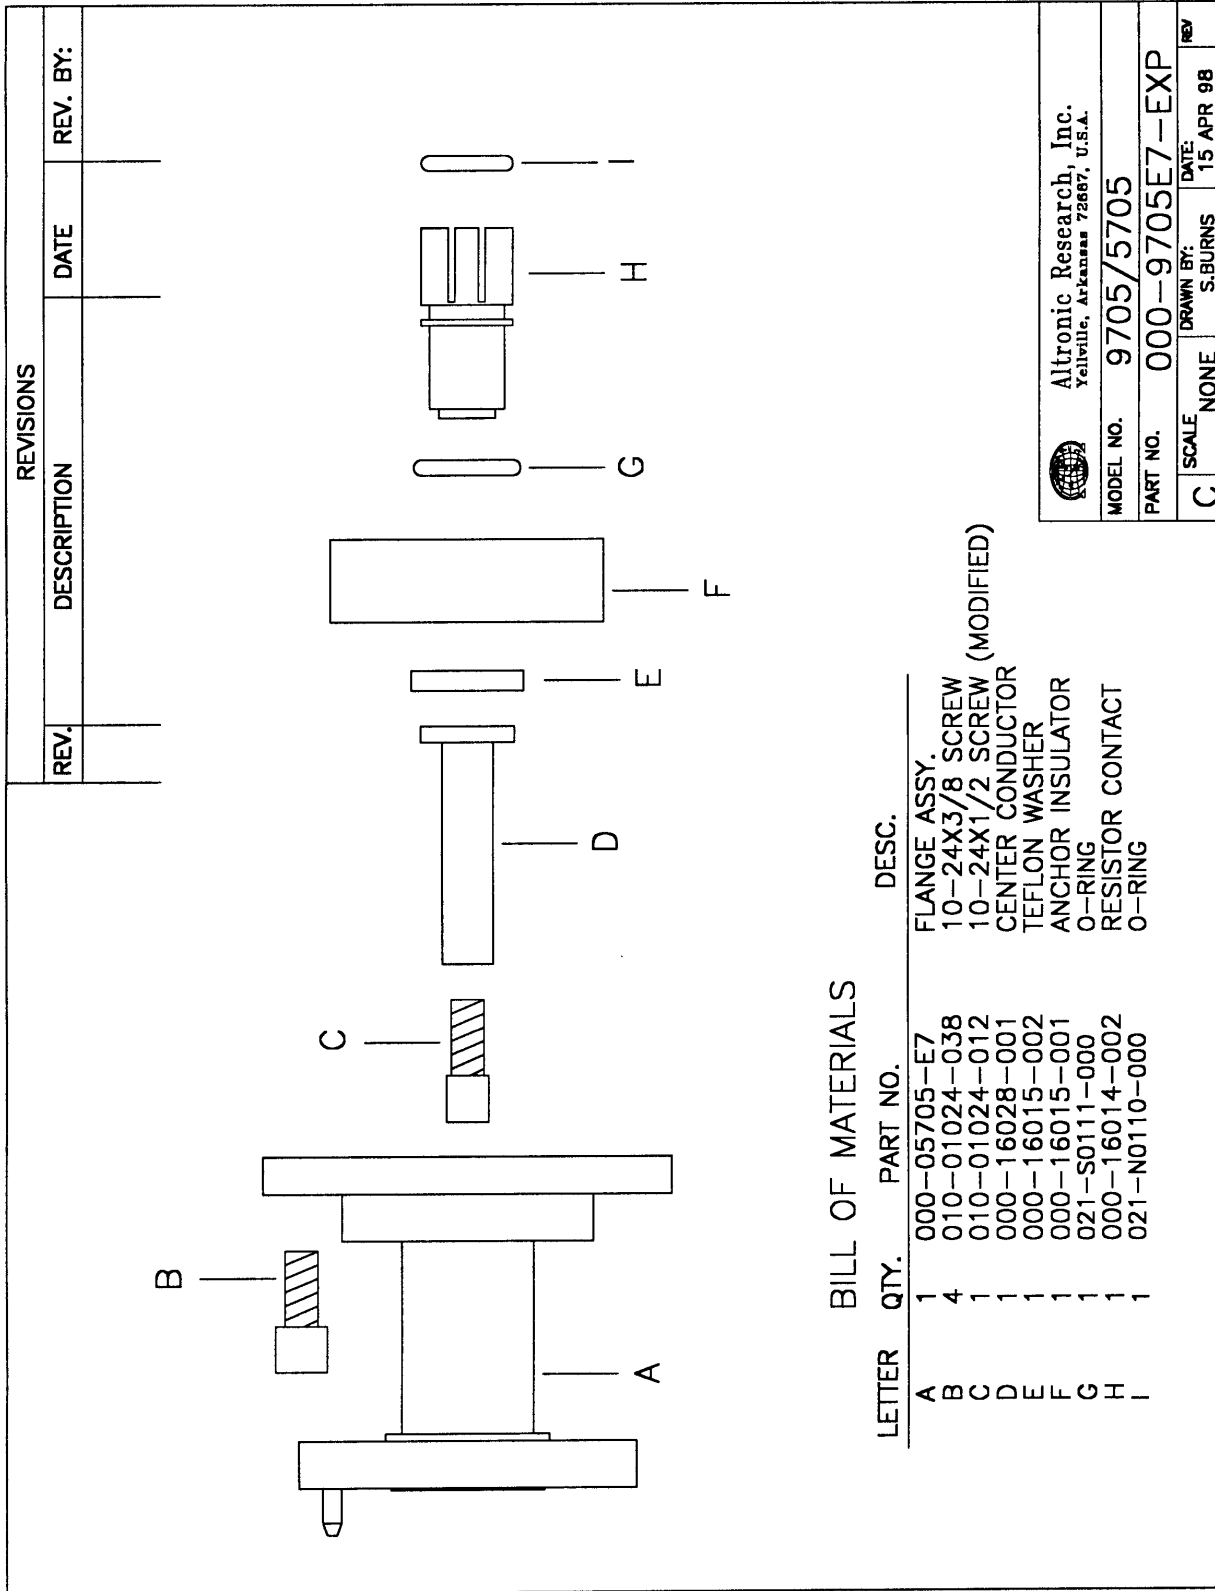

Fig. 15
5. **Removal of RF Input** - (Refer to Figure 15) To remove the RF input line adaptor flange, remove four 10-24x 3/8" socket head screws (item B) that secure the line adaptor flange (item A) to the load body housing (item D, Fig. 14). The RF input assembly consisting of the center conductor, anchor insulator and front resistor contact (items C, D, E, F, G, H and I) will normally remain in the load body. Grasp the center conductor (item D) by hand and attempt to pull the input assembly out of the load body using slight side to side motion while pulling. If strong resistance is encountered, it may be necessary to chill the load to allow the anchor insulator to shrink away from the load housing. This can be done by placing the load in a freezer, or packing the load in ice for 20 to 30 minutes. Once the anchor insulator has shrunk away from the load housing, the RF input assembly should be easily removed. At this point of disassembly, all components of the load can be inspected or replaced as needed. Reassembly should be done in the reverse order of sequence.